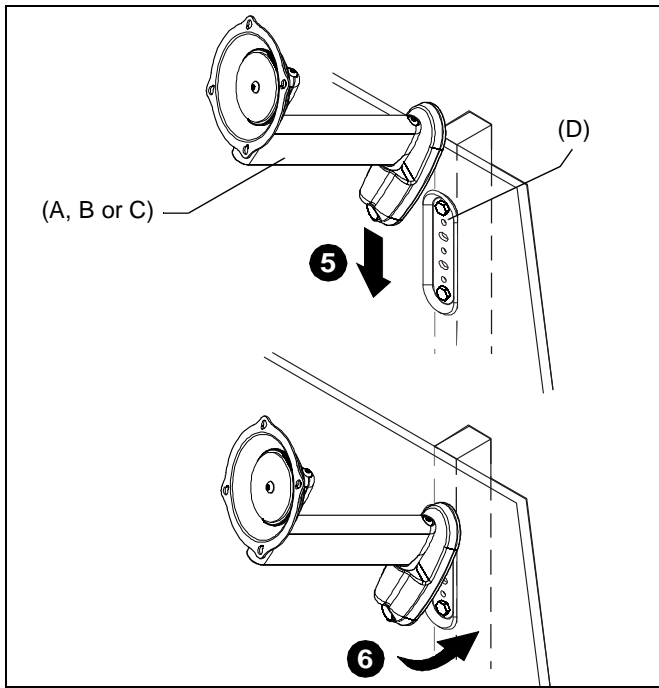

Figure 2
5. Insert top of wall mount (A, B or C) over lip on top of wall plate (D). (See Figure 2)
6. Swing wall mount down flush against wall. (See Figure 2)